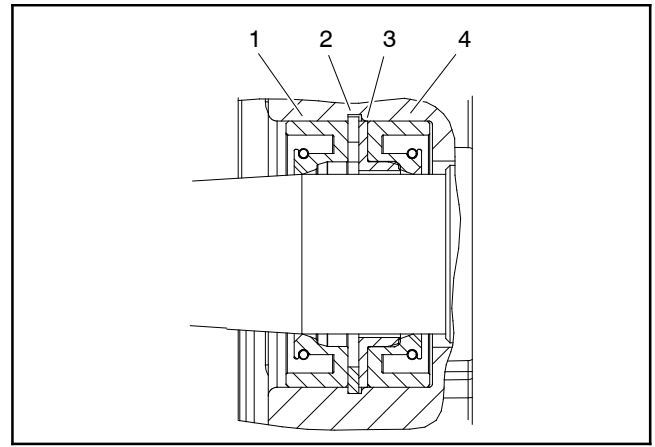

Figure 90
10. Carefully remove dust seal, retaining ring, flange washer and shaft seal from the front flange (Fig. 90). Note orientation of seal lips during removal. Discard removed seals.
2. Install new seals into front flange (Fig. 90). Note orientation of seal lips during installation: